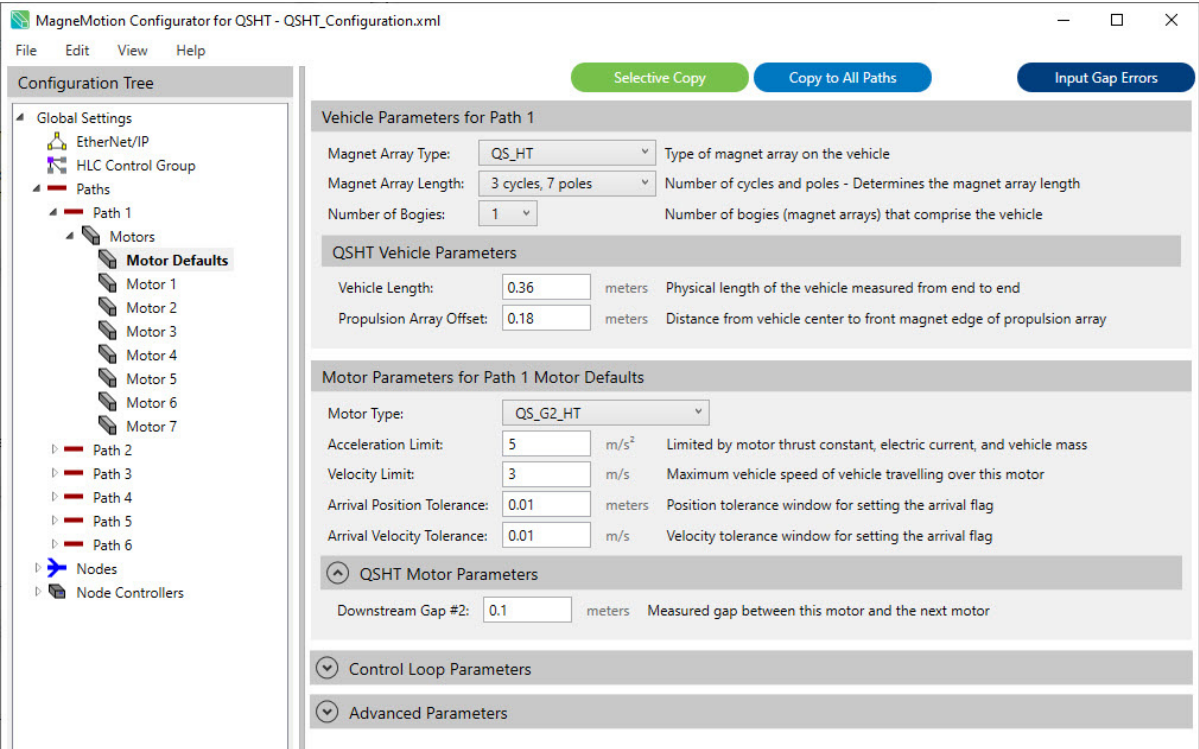

Figure 4-38: Motor Page - Input Gap Errors
4. From any motor page, select the **Input Gap Errors** button on the top-right, see Figure 4-38.